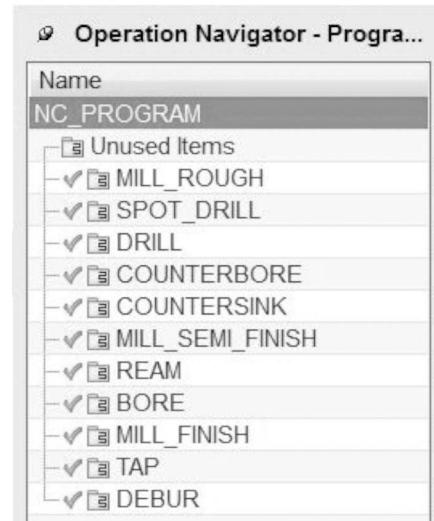

Figure 6-6 Operation Navigator,
- B. Select the Machining Environment from the list in the dialog box as seen in Figure 6-5 and press OK. The Program Group Folders (placeholders for the upcoming operations) will be created and listed in the Operation Navigator in the Program Order view (Figure 6-6). Later, we will copy and rename these folders specifically for this project. As processes are created, they will be placed either in the applicable folder for tool-path generation or in the Unused Items section for your subsequent action.